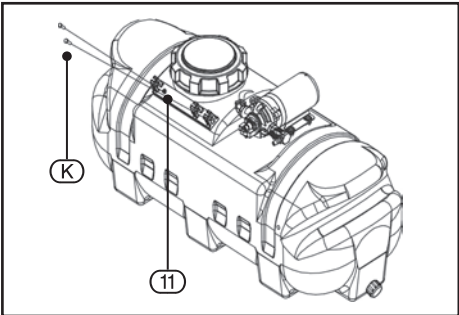

FIG. 9
9.7 ATTACH BROADCAST BRACKET TO TANK – FIG. 9